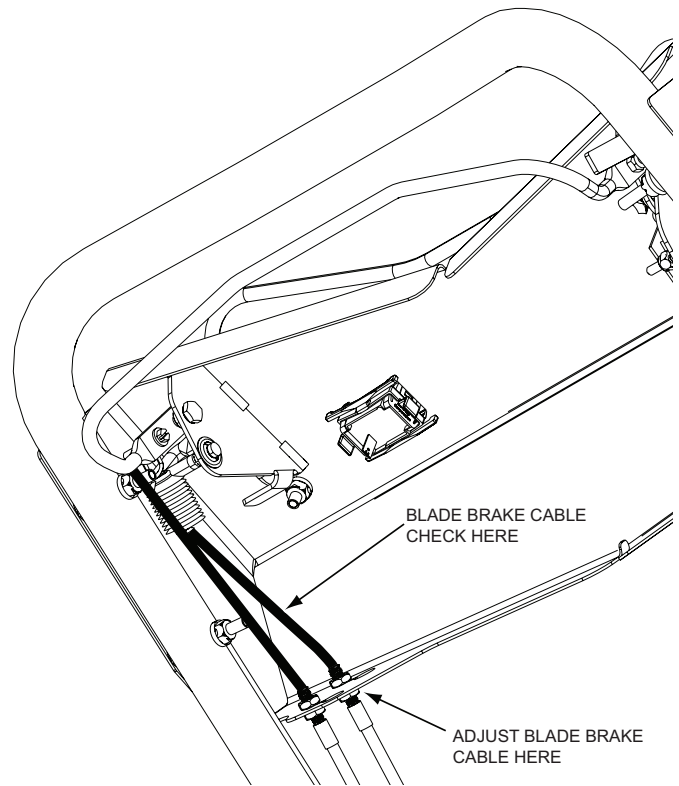

Figure 6-3. Blade Brake Cable Spring
4. With the blade control bar in the disengaged position, adjust until there is a slight amount of tension on the cable. Adjust the tension on the cable by using the adjustment nuts. Turning the cable jacket away from the engine to decrease the tension See Figure 6-3.